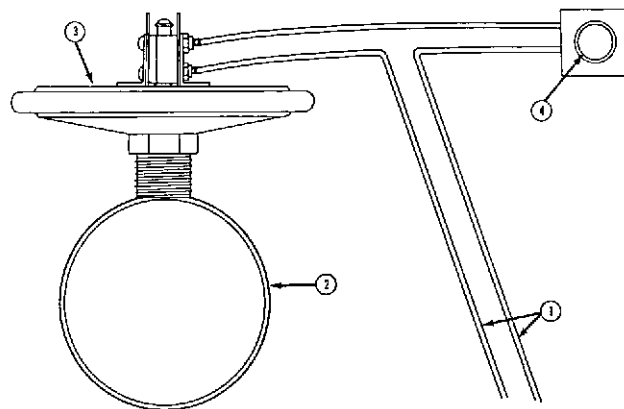

Fig. 5-25. Vacuum switch to check air inlet restriction
1. Electric source (1, Fig. 5-25).
2. Air piping with fitting for switch (2).
3. Vacuum switch (3).
4. Red indicator light (4).